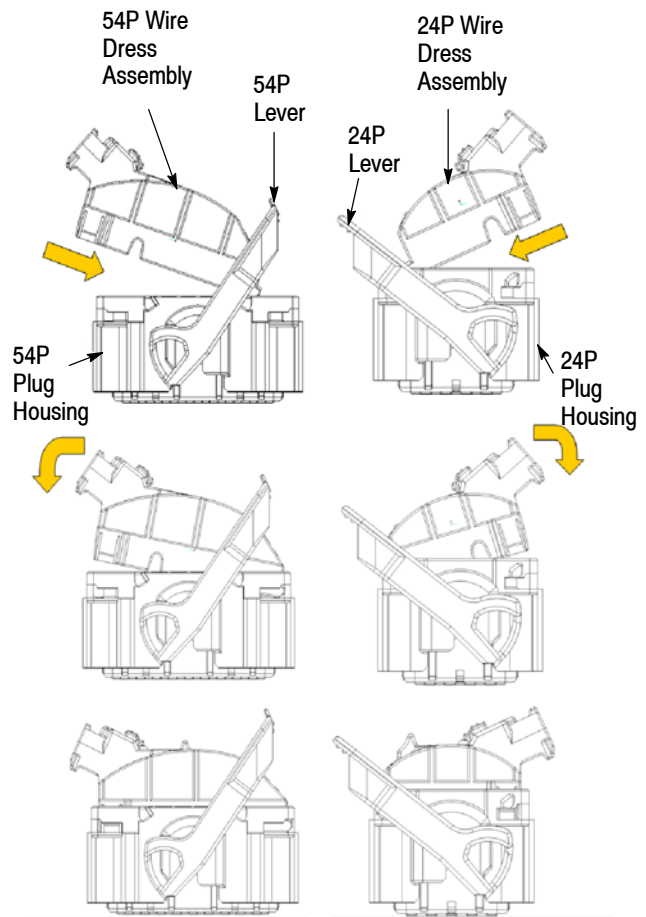

Figure 5
1. Insert the rear of the wire dress cover into the corresponding plug housing as shown in Figure 5.